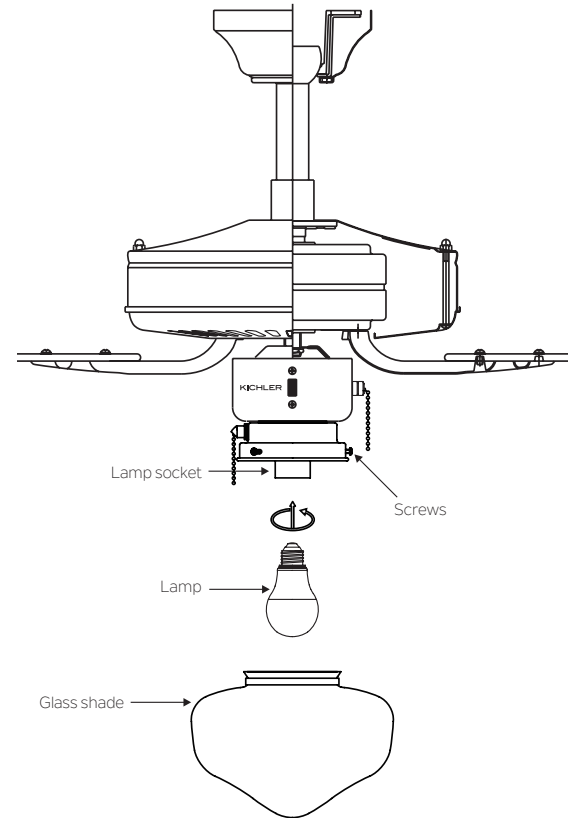

Fig. 3
1. Install the 9 watt E26 LED lamp (provided). (Fig. 3)
2. Attach the glass shade to the light fixture by tightening each of the mounting screws located around the outside of the fixture. Tighten each screw evenly to center the glass shade. **DO NOT OVER TIGHTEN.** (Fig 3)